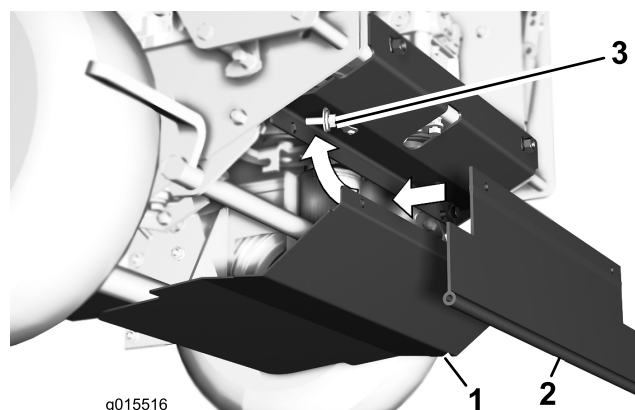

Figure 8
16. Test fit the underside guard and adjust the position of the drive pulley guard if necessary (Figure 8).
captured in the lanyards on the drive pulley guard (Figure 8).